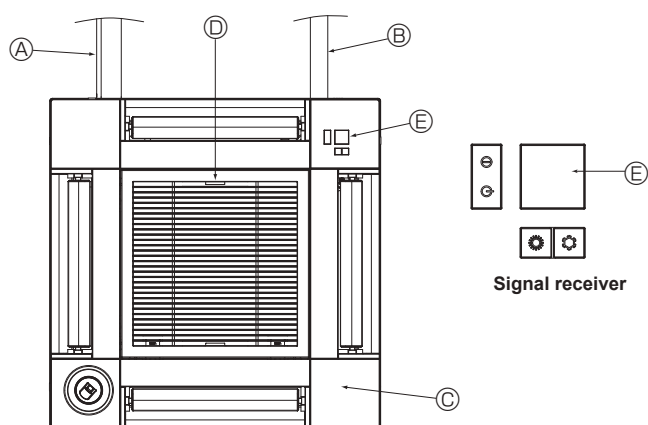

Fig. 10-17
10.6. Installing the intake grille (Fig. 10-17)